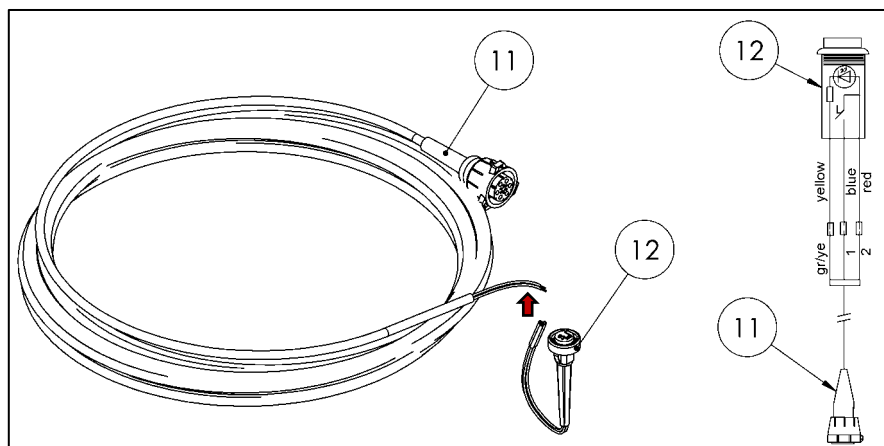

Fig. 48
- Drill a 16 mm dia. hole for the cabin switch (12) in a suitable location on the dashboard.
- Snap the cabin switch (12) into the hole.
- Route the cabin switch unit cable (11) from the lifting gear to the front.
- Connect the cabin switch unit as shown in Fig. 48.